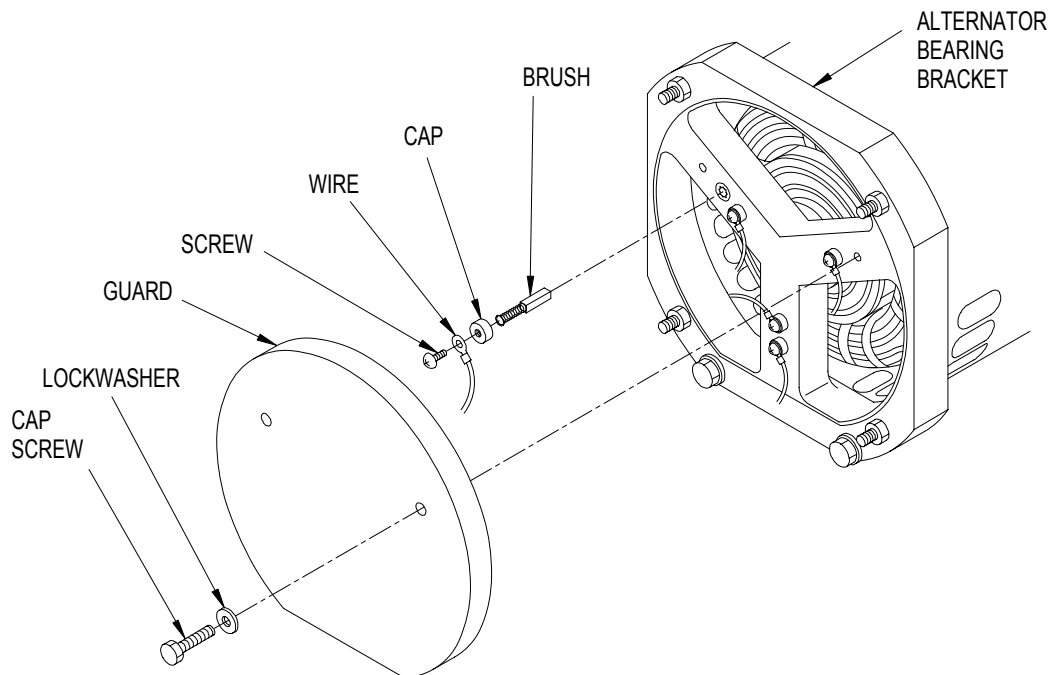

Figure 4-5. AC Alternator Brushes
- (1) Shut down generator set.
- (2) Remove control panel assembly, refer to paragraph 4.20.b.
- (3) Remove capscrews (Figure 4-5), lockwashers, and guard from alternator.